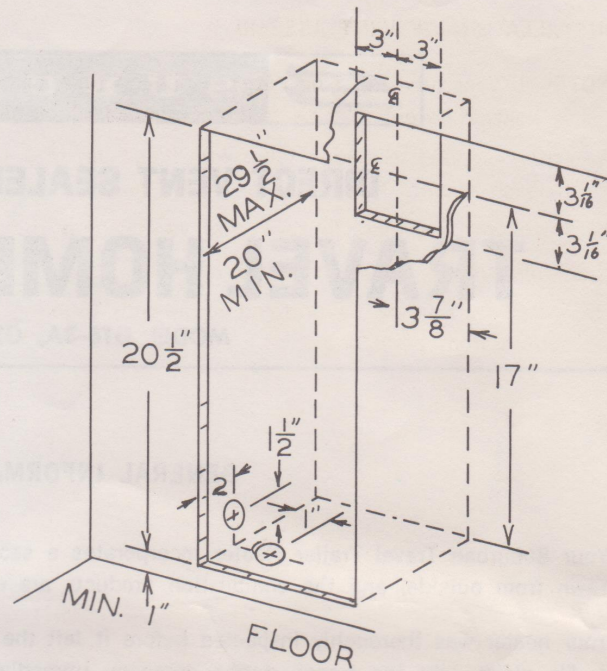

FIGURE 1
- B. Refer to Fig. 1. The 1" minimum dimension is to mount the heater flush with the floor. The heater may be mounted higher on the wall if desired. The 29½" maximum and 20" minimum enclosure thickness must be maintained in order for the vent tubes to overlap properly.
- C. Now cut the rectangular opening shown in Fig. 1 in the inside finished wall only. Cut the 6½"×6" hole in the outside wall only. Cut only one of the two 1" dia. holes shown for the gas line.